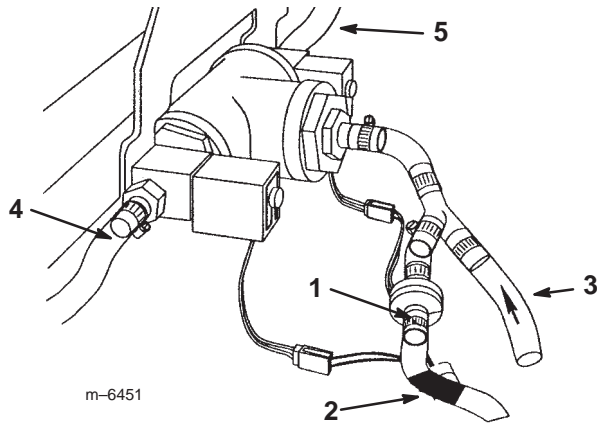

Figure 16
20. Ensure that the marked supply hose is connected at the compressor and the check valve. If not, correct it before using (Fig. 16).
22. Secure both hoses with small hose clamps (Fig. 16).